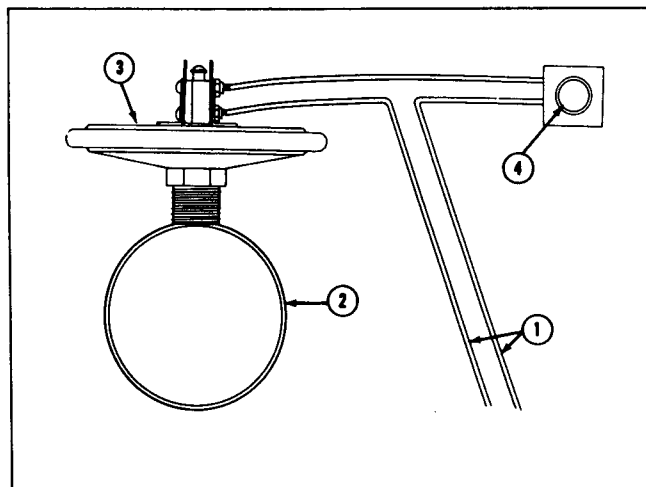

Fig. 10-3, (N21905). Air cleaner restriction vacuum switch diagram
2. A second method is utilization of a vacuum gauge and warning light that performs the same function as described in Step 1. Components for vacuum gauge include electrical source (1, Fig. 10-3) air piping (2), vacuum switch (3) and red warning light (4).